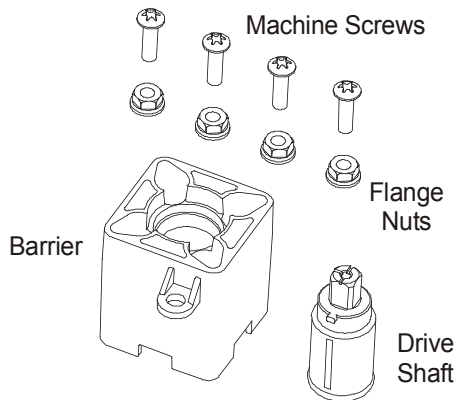

**Figure 15: Mount the Actuator**
7. Install the actuator on the ball valve (Figure 15). Tighten the actuator mounting screw to a torque of 10 to 12 lb·in. (1.1 to 1.4 N·m) and snap the large adjustable pointer into place.